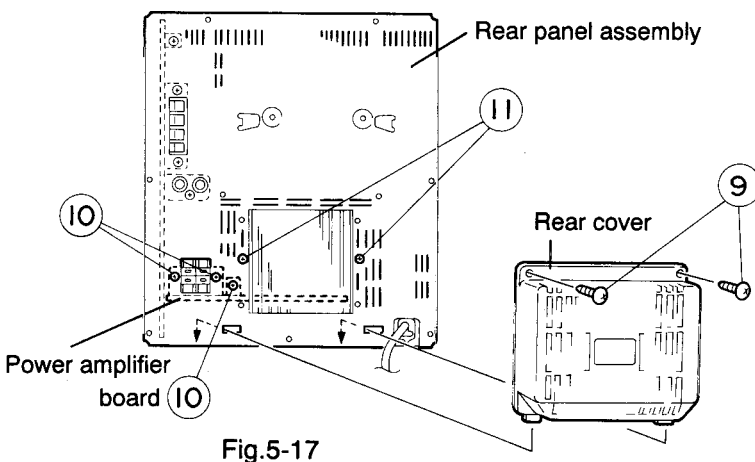

Fig.5-17
6. Remove the two screws ⑨ fastening the rear cover to the rear panel assembly and then remove the rear cover. (See Fig. 5-17)
7. Remove the five screws (⑩ x 3, ⑪ x 2) fastening the power amplifier board to the rear panel assembly.(See Fig. 5-17)